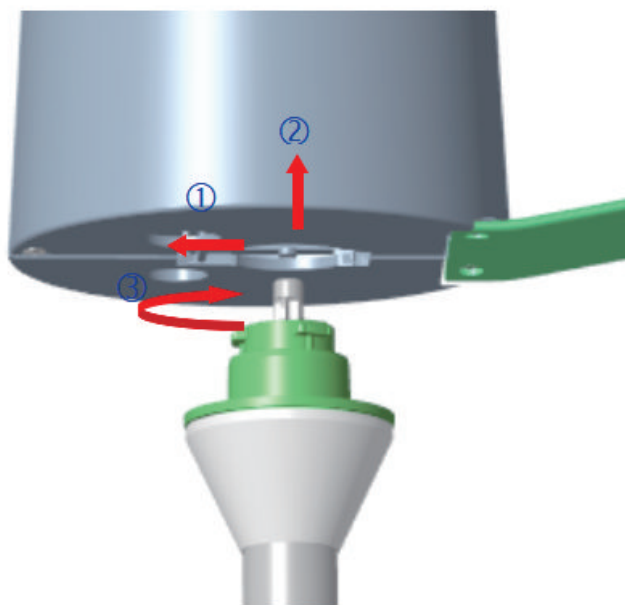

Fig.2
- Before inserting the bar blender to the mixer door, firstly you use bar blender head to lever the mixer door, then push it down, finally rotate it anticlockwise until they click into place(if you can not hear they click into place, you may have to push it down and rotate it anticlockwise until the head really reach the bottom place). Check they are in securely and correctly. (Fig 2)